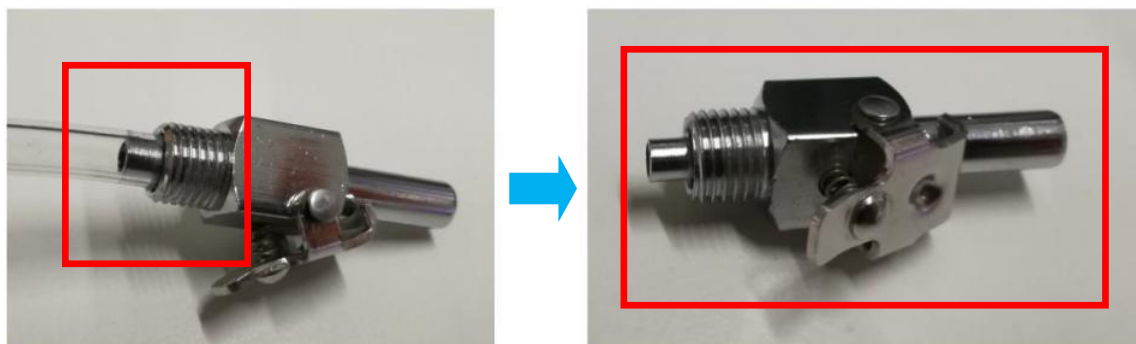

Figure 11
13. Gently remove the existing tubing from Parker Clip Fitting as Figure 11.